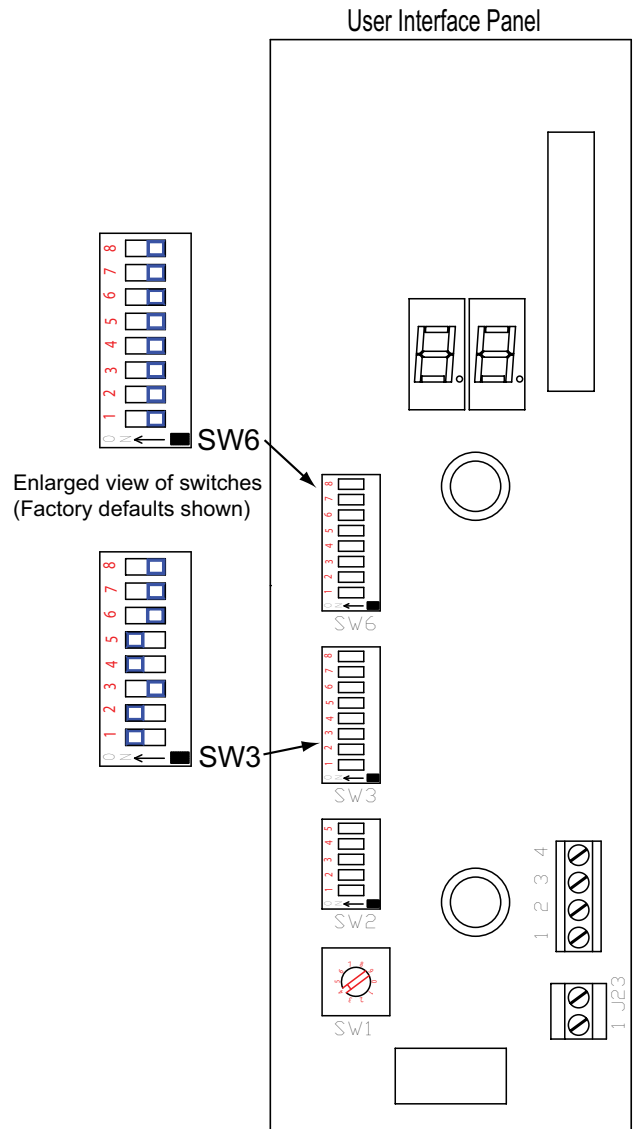

Figure 4: *MagVFC* Factory Switch Settings
- Configuration switches are factory set for PMA VS2 in gasoline, mechanical leak detectors, extended run active, and stand-alone operation as detailed below in Figure 4. If you are using a different configuration see the Option Select section of this manual.
- To make changes to the configuration switches SW3 and SW6 (See Figure 4), make sure power supply is locked and tagged out, then remove the two screws from the plastic shield covering the User interface board. Set all DIP switches as desired per the details below.